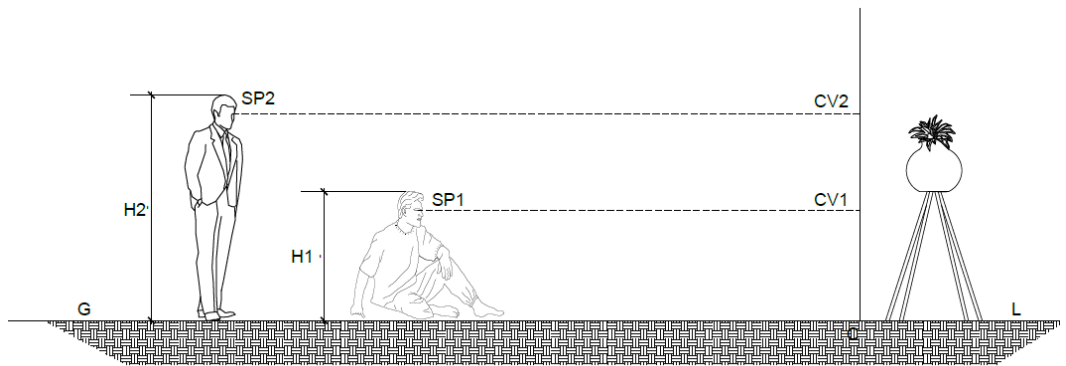

Fig 5.5 Point of Sight
Vertical sight lines and horizontal sight lines are always at right angles to each other and the point where they cross is the centre of vision (CV), the point towards infinity which is dead in line with the observer's eye as shown **Fig 5.5** It is also called point of sight or principal vanishing point.